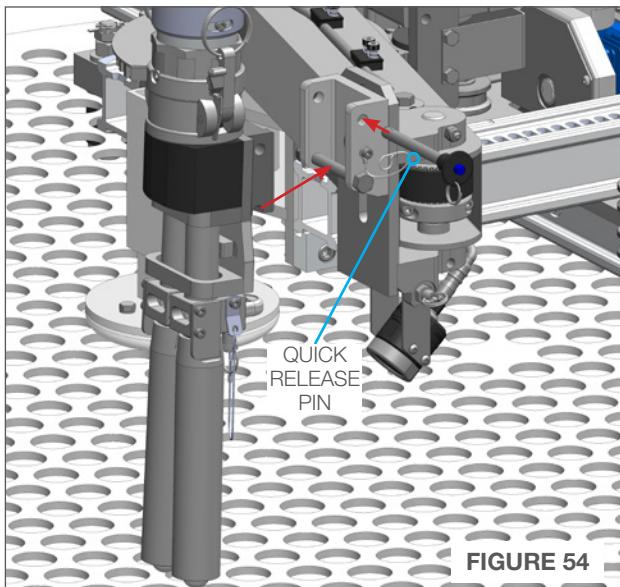

FIGURE 54
2. Pull the Quick Release Pin on the Guide Mount and connect the Guide to the on the Domed Bundle Positioner. (**Figure 54**)